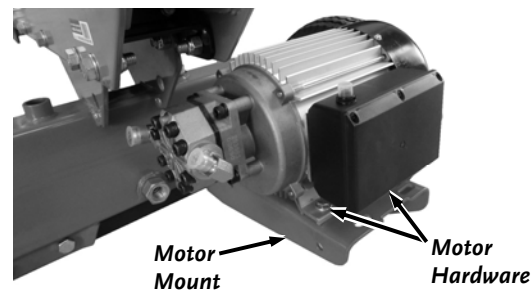

Figure 11
16. Position the Motor onto the Bracket and align the Motor Base holes with the holes of the Bracket (**Figure 11**).